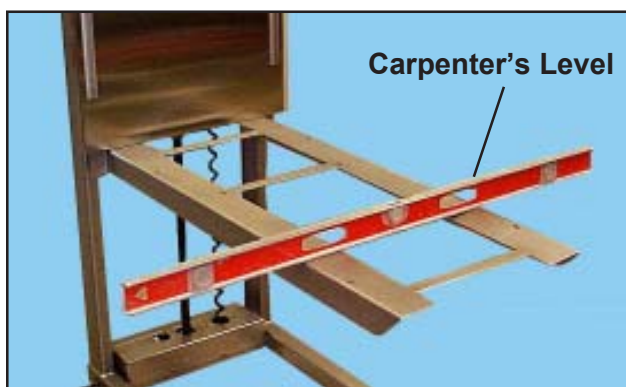

Figure 5. Carpenter's Level Across Table Arms
7. Place a carpenter's level *across* the table arms (Figure 5).
10. Place a carpenter's level *across* the table arms (Figure 5).